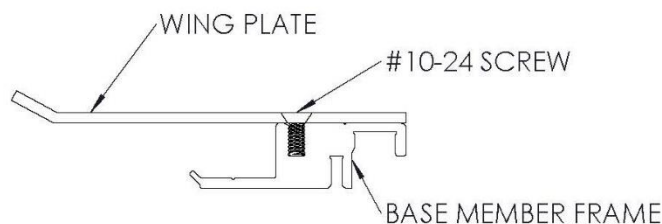

FIGURE 1
1. Remove the factory installed #10-24 screw that attaches the wing plate to the base member frame and retain for reinstallation later. *Note: In the 2" and 4" sizes this step is not necessary as the wing plate and frame are one piece.* **See Figure 1**